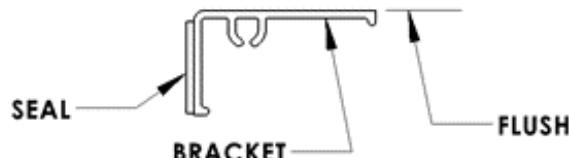

FIGURE 1
- b. Inspect the (2) Long Brackets w/Seals (A) to confirm that the seal is held tightly to the bracket along the full length.
- c. If the seal is not held tightly to the bracket at any point along the length, then press the seal tightly at this point ensuring the seal and bracket are flush as shown below (Figure 1). Repeat for any area that is not held tightly.
- d. Repeat steps 2b-2c for the (2) Short Brackets w/Seals (B).